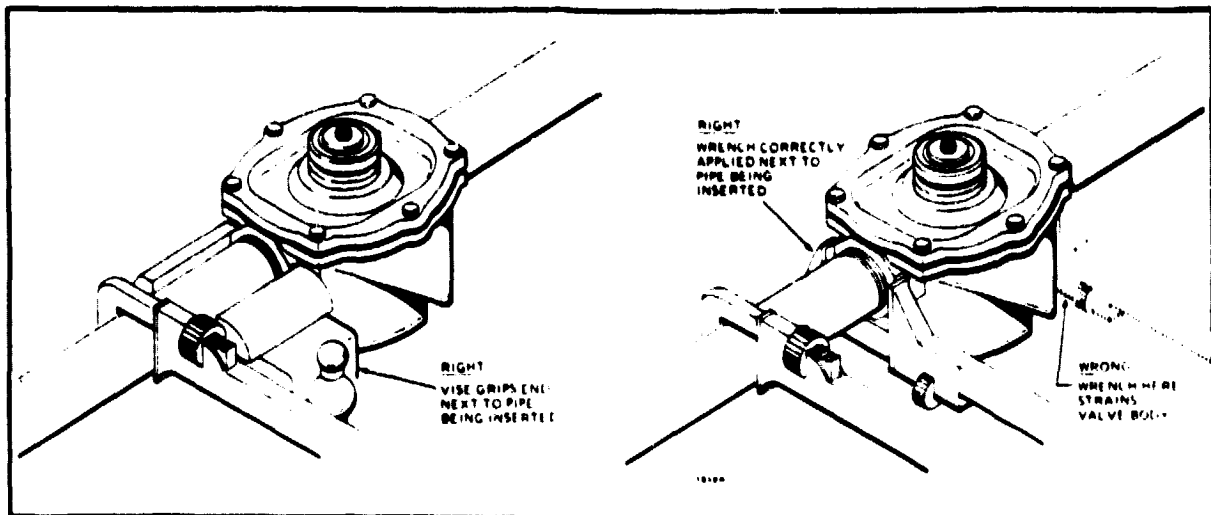

FIG. 5—INSTALLING A 3/4 THROUGH 3 in. V5055 VALVE.
6. Apply a parallel jaw wrench only to the flat next to the pipe being inserted (Fig. 5). A wrench applied to the valve body itself or to the end farthest from the pipe being inserted may distort the casting, causing a malfunction. Do not use the valve for a lever.